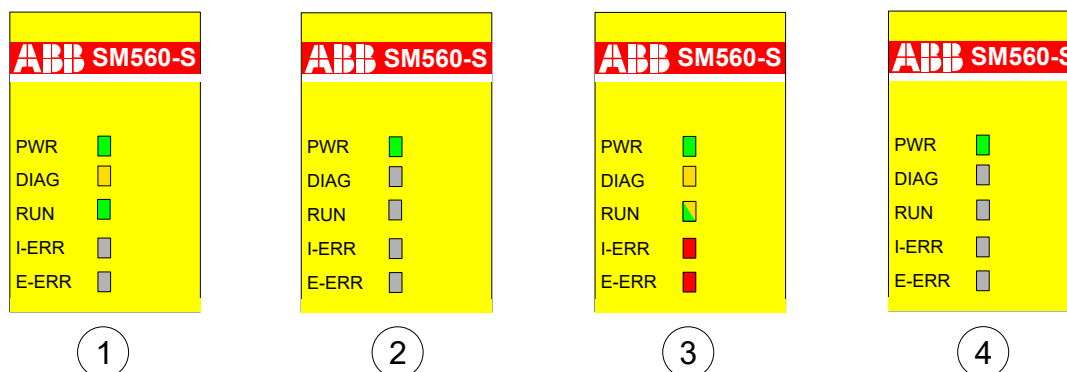

Fig. 11: LED states of the safety CPU during start-up
**INIT** This is a temporary system state which is left after internal safety diagnostic tests and start-up procedures are executed. Refer to Fig. 11 on page 47 to see the LED states.